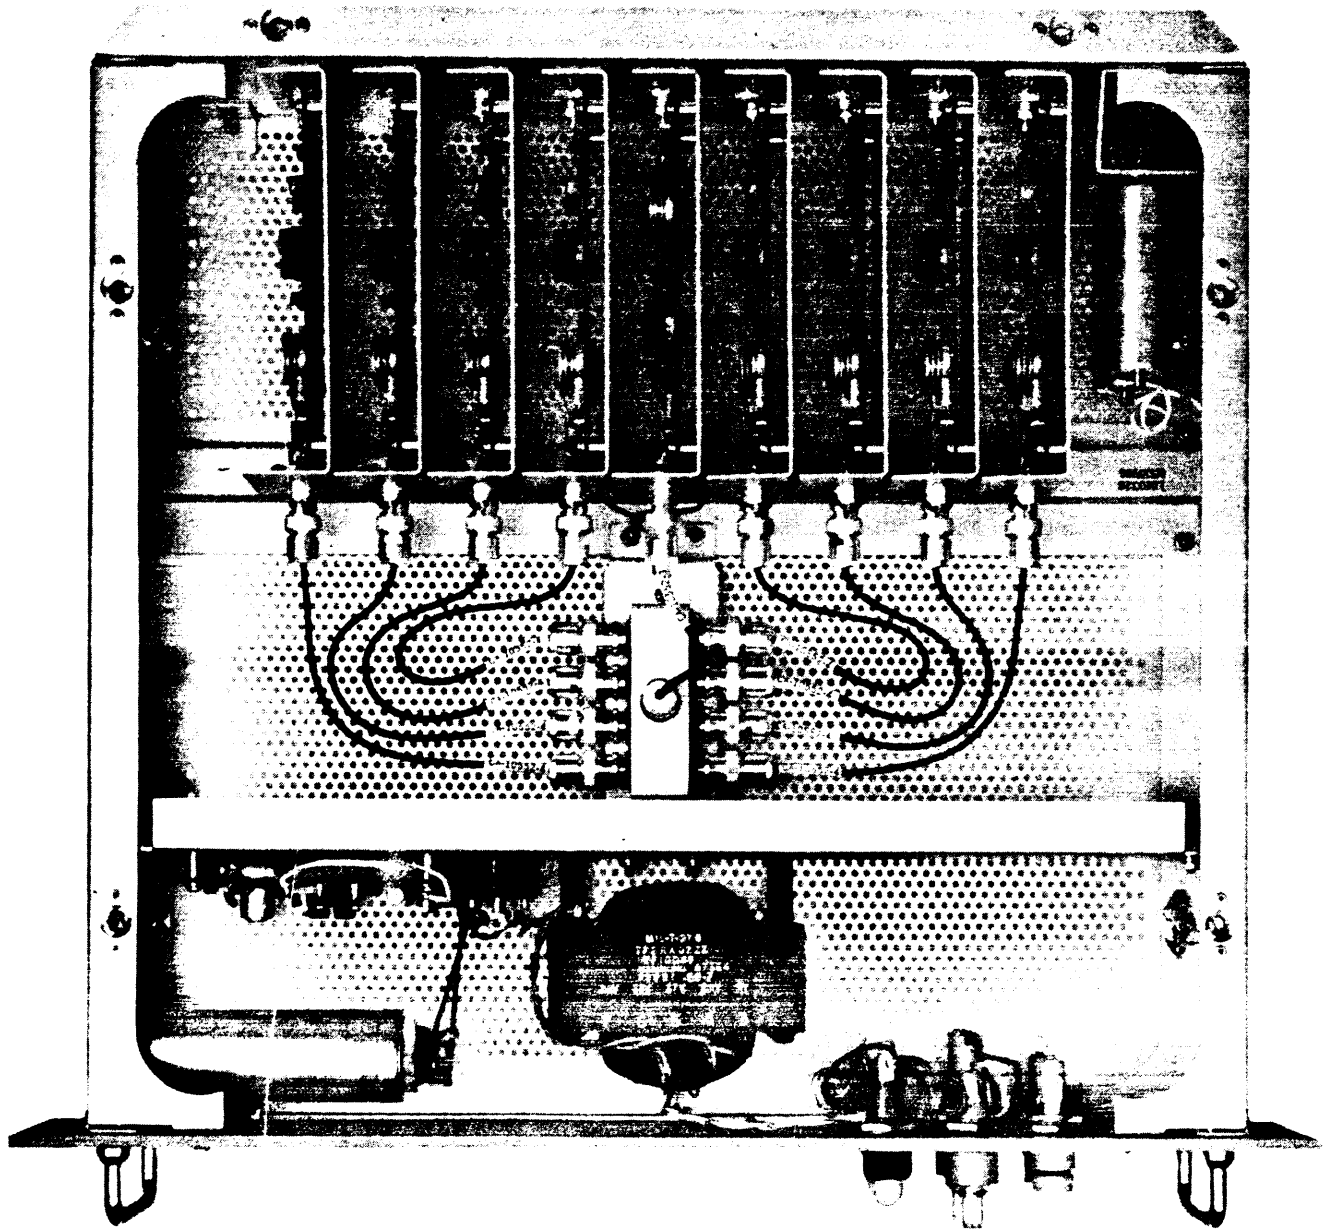

Figure 5-1 Top View With Cover Off, MAC-1
(1) This section describes the preventive maintenance, trouble-shooting and repair procedures for the MAC-1. The following equipment is suggested in order to perform these procedures properly:
(2) For aid in the location of components, refer to Figures 5-1 to 5-4 inclusive.